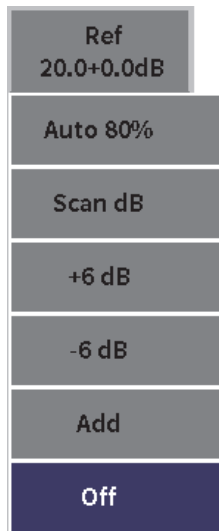

Figure 6-2 Scanning gain buttons
6. Press the Enter key to display the scanning gain buttons (see Figure 6-2 on page 62).